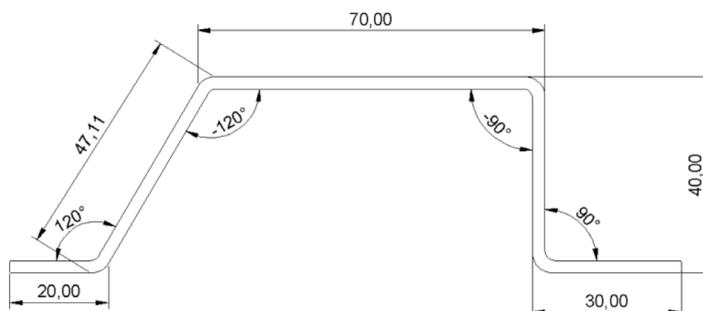

Figure 32. Example of piece to be drawn
- If the "pincushion" option of the keyboard has not been enabled, by touching the ALFA angle Field (as illustrated in Figure 32) the Soft Keyboard will reappear and allow you to enter the angle: